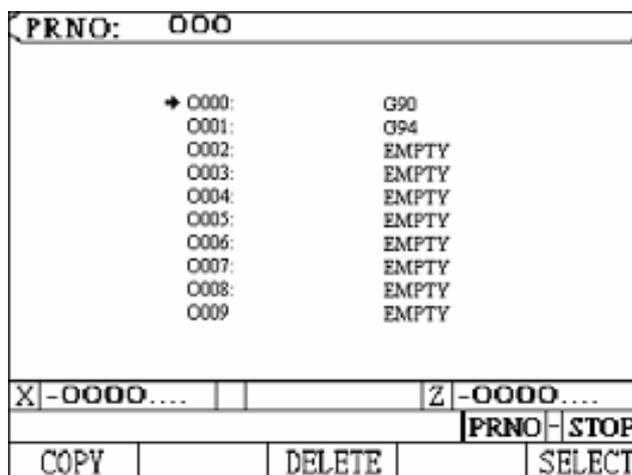

Fig.2-30
3. Press DEL key and the LCD display is as shown in Fig 2-30. (Block N4)